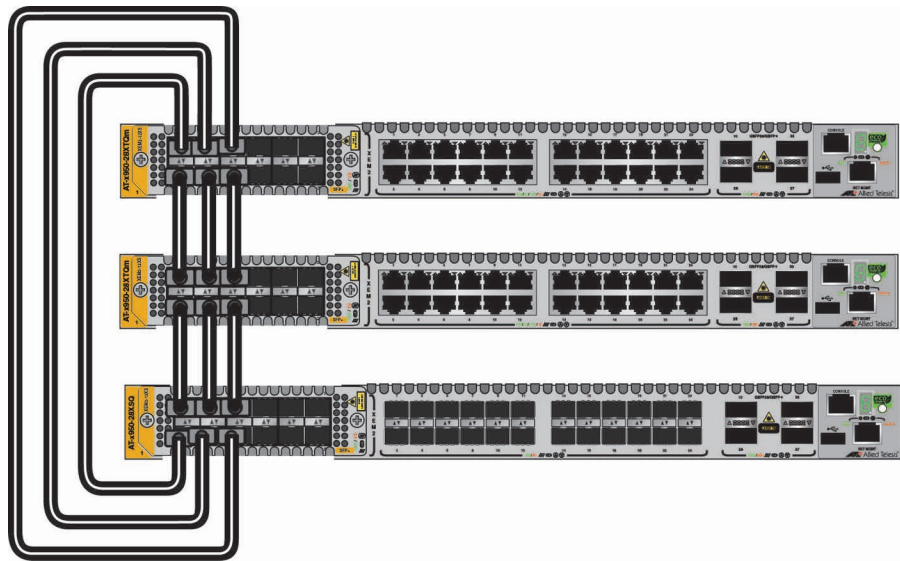

Figure 39. Example Trunk Using XEM2-12XS Line Cards
- Figure 39 is an example of a stack of three switches with a trunk from ports on XEM2-12XS Line Cards.